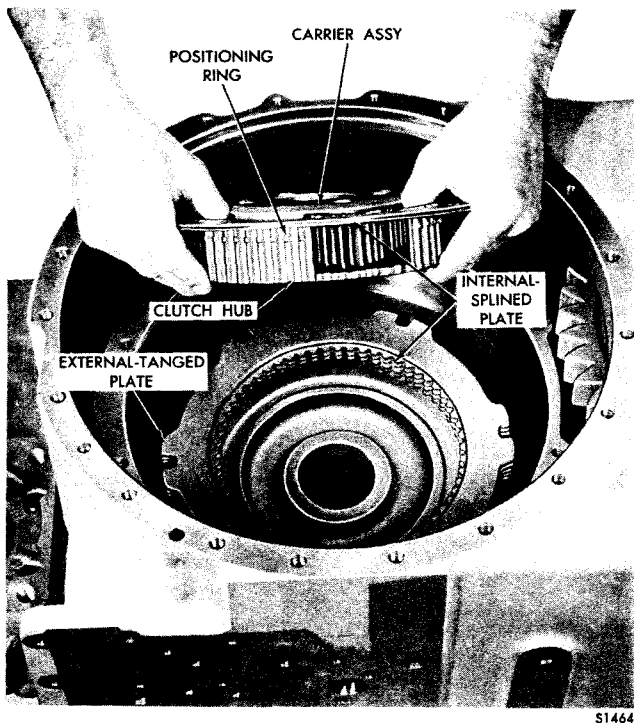

Fig. 7-2. Installing reverse clutch plates and planetary carrier assembly
(2) Refer to the note following (4), below. Beginning with an external-tanged plate, and alternating with internal-splined plates, install five external-tanged and four internal-splined reverse clutch plates (fig. 7-2).
(3) Install the remaining internal-splined plate onto the reverse planetary carrier assembly, behind the positioning ring on the clutch hub. Install the carrier assembly (fig. 7-2), engaging the hub splines in the internal-splined plates installed in (2), above.